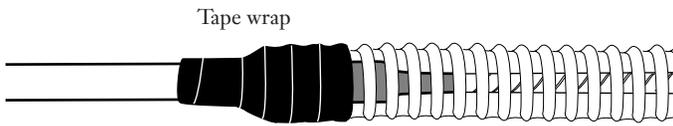

Figure 3
4.4 Starting about half-way over the heat shrink tubing (as seen through the corrugated tubing), use a continuous wrap electrical or strapping tape and tape the tubing to the cable jacket (Figure 3).